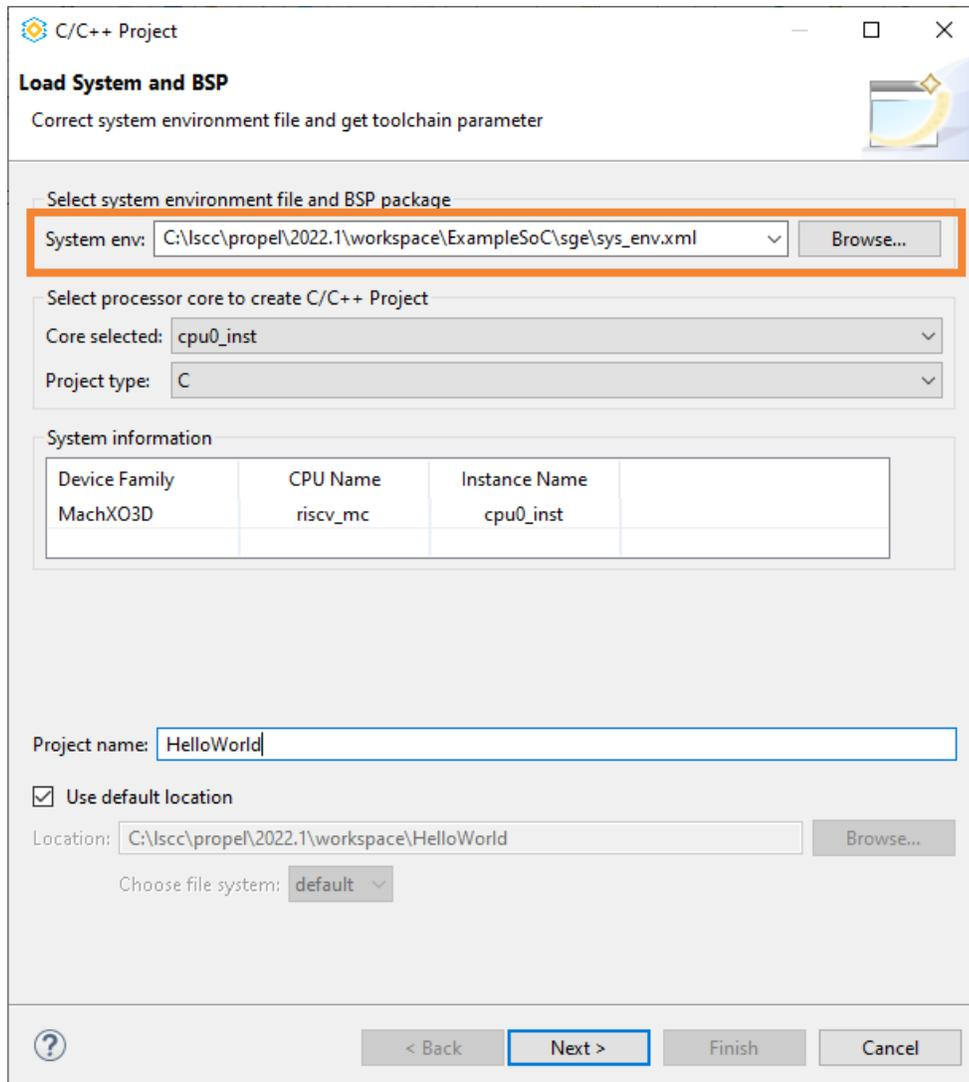

Figure 4.9. Load System and BSP Page
The C/C++ Project wizard opens with **Load System and BSP** page (Figure 4.9).
4. Select the system environment file just generated (Figure 4.9).
5. Enter project name “HelloWorld” (Figure 4.9). Click **Next**. Then click **Finish**.